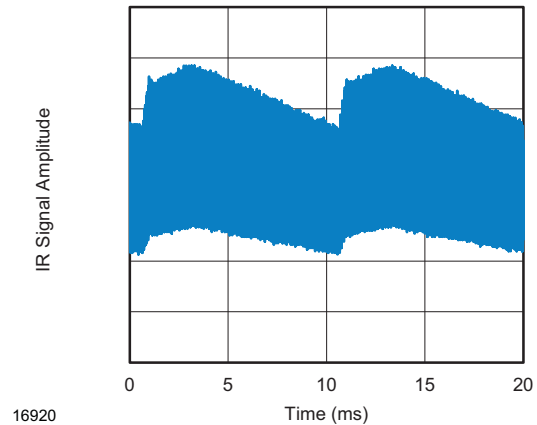

Fig. 13 - IR Disturbance from Fluorescent Lamp With Low Modulation
- Modulated IR pattern from common fluorescent lamps (example of noise pattern is shown in Fig. 13 or Fig. 14)